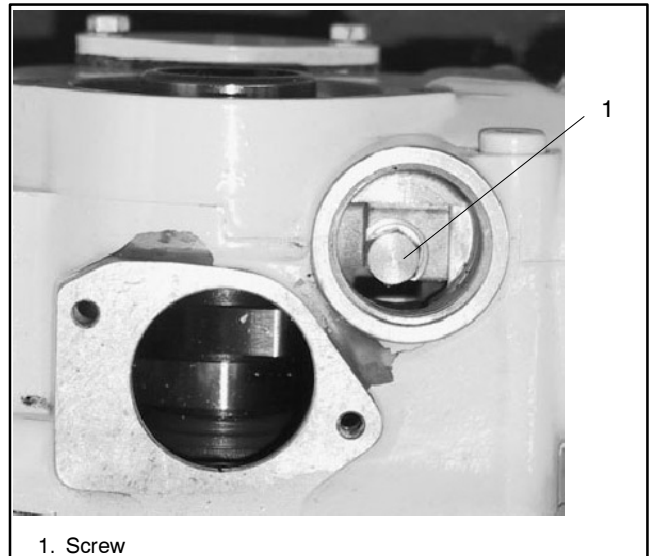

Figure 10-45 Camfollower
1. To remove the camfollower, unscrew the screw shown in Figure 10-45 through the oil filling hole.